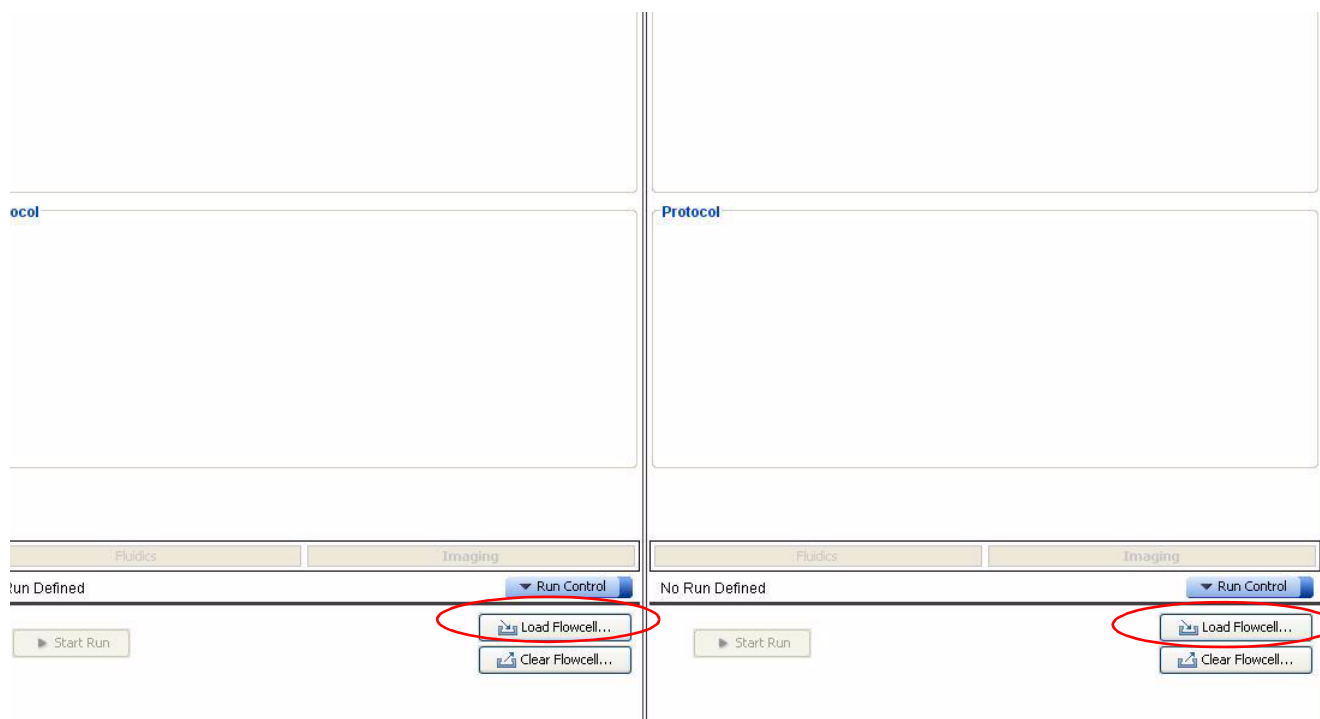

Figure 21 Click **Load Flowcells** to load the flowcell with buffer.
- 10. Click the **Load Flowcells** button located at the bottom of the flowcell panel. Each flowcell has its own Load Flowcells button (see Figure 21).